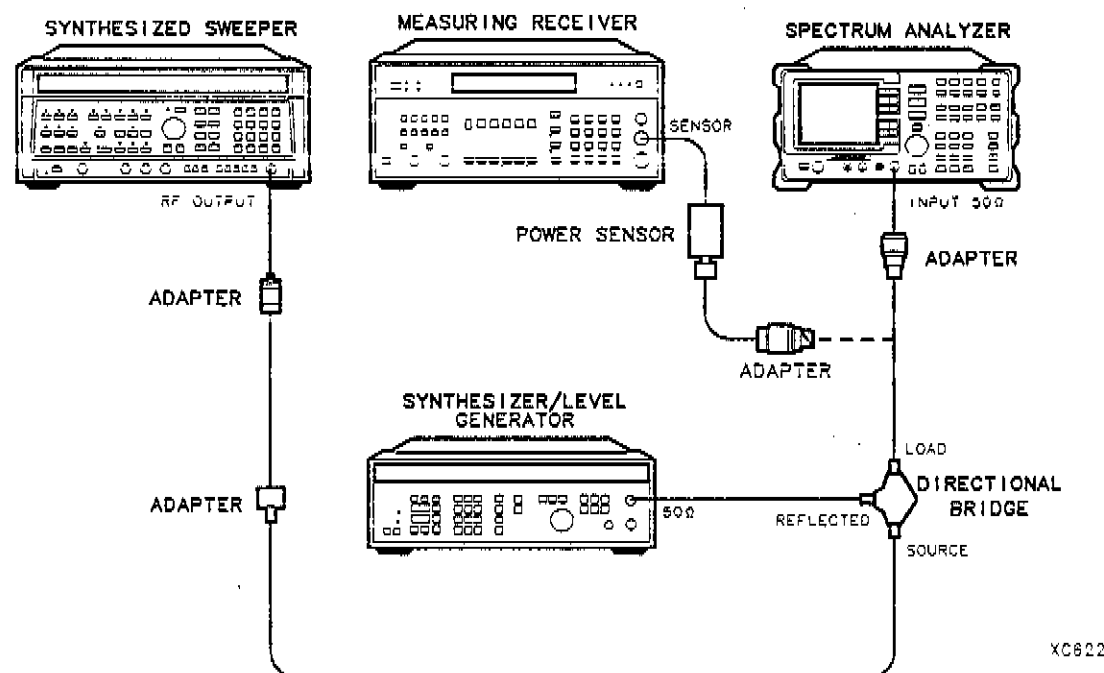

Figure 1-23. Gain Compression Test Setup
2. Connect the equipment as shown in Figure 1-23, with the load of the directional bridge connected to the power sensor.
15. Connect the equipment as shown in Figure 1-23.